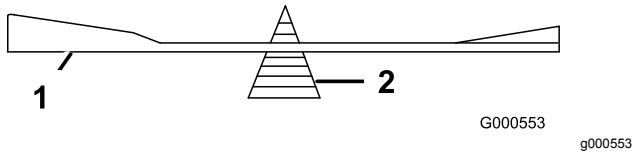

Figure 97
2. Check the balance of the blade by putting it on a blade balancer (Figure 97).
Note: If the blade is not balanced, file some metal off the end of the sail area only (Figure 97).